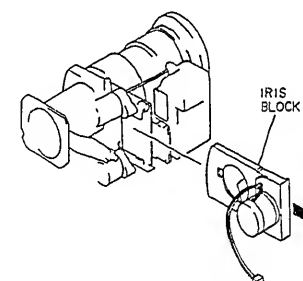

Fig. 2-105
1. Remove the iris block in the direction of the arrow. (See Fig. 2-105)